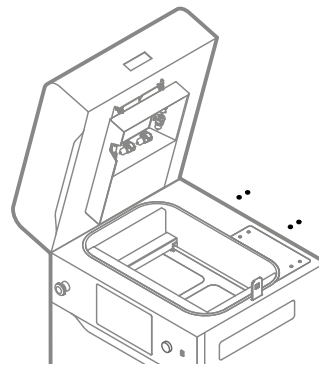

Fig. 12.67 Tighten back four screws of the access panel.
13. Using a 2 mm allen key, tighten back the four screws securing the access panel on the top of the printer (fig. 12.67).